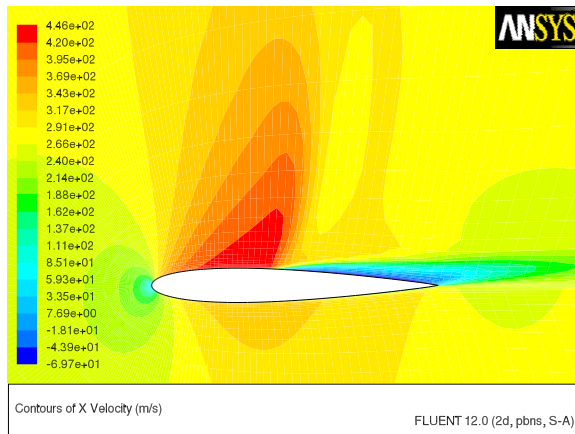

Figure 3.15: Contour Plot of x Component of Velocity
5. Display filled contours of the x component of velocity (Figure 3.15).
Note the flow reversal downstream of the shock in Figure 3.15.